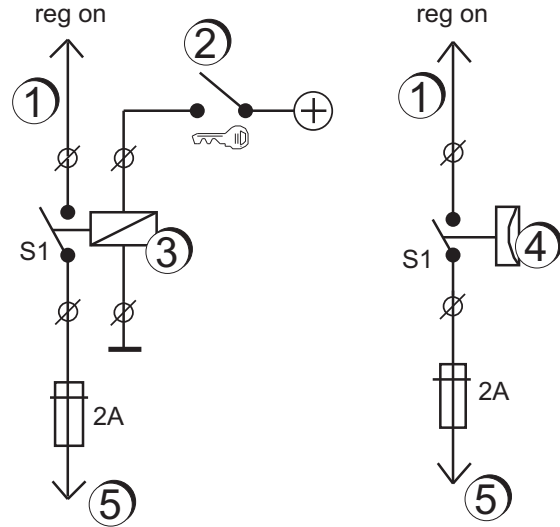

Figure 7: Connection of the ignition switch (left) and an independent (ungrounded) oil pressure switch with normally open contact (right)
- 5 See reference ⑤. The brown cable of the cable assembly must be connected to the [reg on] terminal of the Alpha Pro II regulator. Connect the other wire end through a switch ("S1") with normally open contacts to the positive (+) pole of the battery as indicated. You can use the ignition switch (figure 7) or preferably an independent (ungrounded) oil pressure switch (figure 8). Use a 2.5mm2 cable. This cable must also be secured by a 2 Amp fuse. As the [reg on] terminal is also used for voltage measurement, this cable should not be shared with other loads.